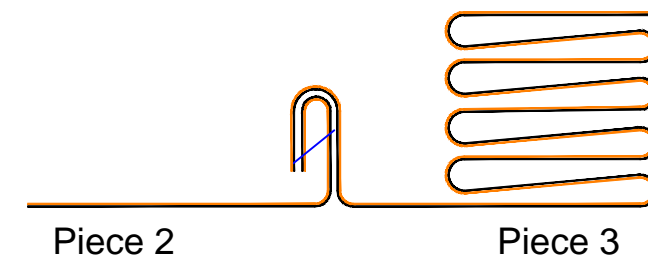

FIGURE 4
6. FOLD THE SEAM OVER AND SEW THE ENTIRE SEAM AS SHOWN IN THE GENERAL INSTRUCTIONS, (FIGURE 4)